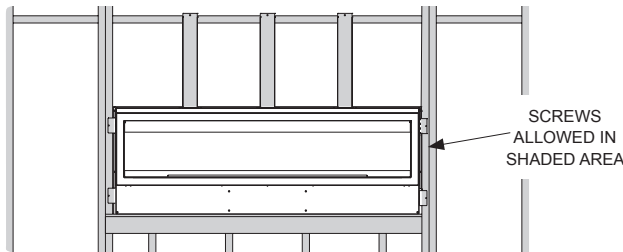

Figure 50
- Screws are allowed in framing and top mounting brackets. No screws are allowed into the fireplace. **See Figure 50.**